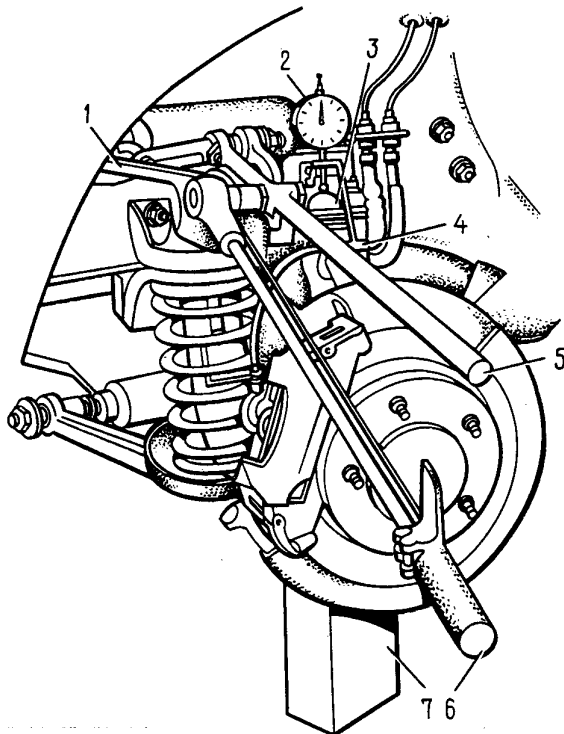

Fig. 4-3. On-Car Checks of Clearance in Suspension Upper Ball Joints:
- secure indicator bracket 4 (Fig. 4-3) on the upper end of the steering knuckle;